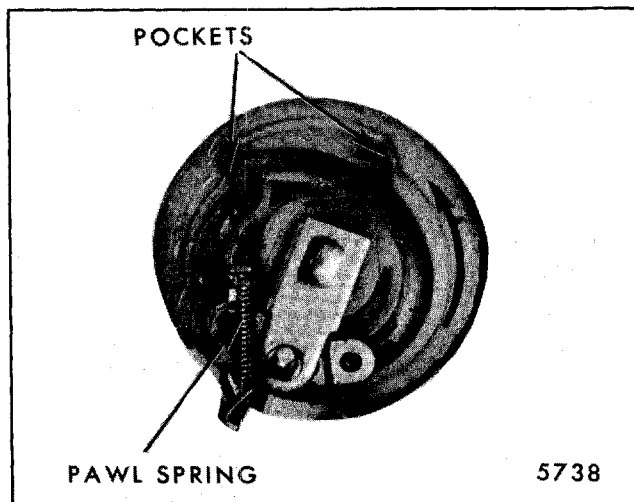

Fig. 2-116-Drive and Lock Pawl Guide Pin Pockets
3. Holding the gear, manually rotate the drive plate in the direction of the arrow until the drive and lock pawl guide pins fit into the gear pockets (Fig. 2-116).